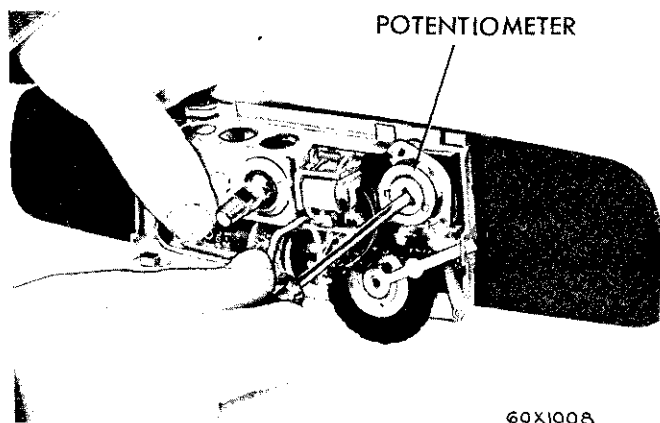

Fig. 28—Adjusting Potentiometer
(1) Check the spring load on the chassis using a spring scale, attach the scale to the chassis at the photo cell opening. Hold the assembly firmly and measure the spring load. The spring load should be at least 8 ounces. If less than 8 ounces the tension can be increased by shortening the two return springs at the lower corner of the chassis assembly. **The small coil spring located on top of the relay along side the potentiometer should not be tampered with since this spring is pre-set to specific dimensions.**
(2) If sensitivity was incorrect adjust potentiometer by turning clockwise to increase, counterclockwise to decrease, (Fig. 28).